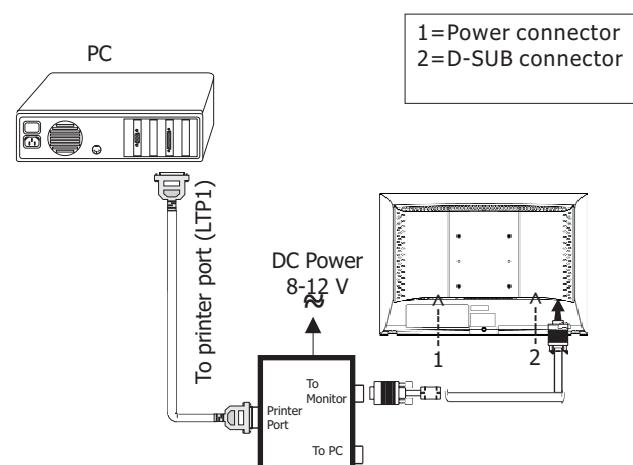

Fig. 3
Step 2: Connecting printer cable and D-Sub cable of monitor as Fig. 3